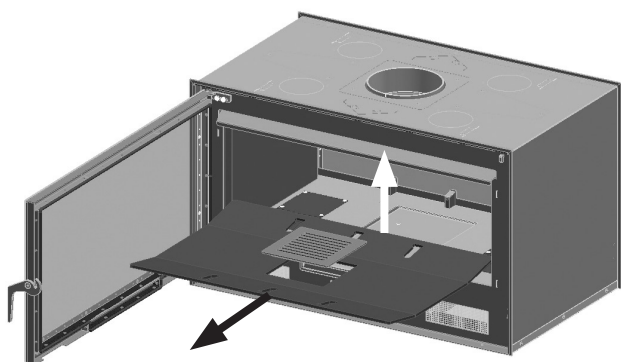

FIG. 9
1. Remove the grill and the bottom section. Pay attention to vermiculite parts; they can break. (Fig. 9)